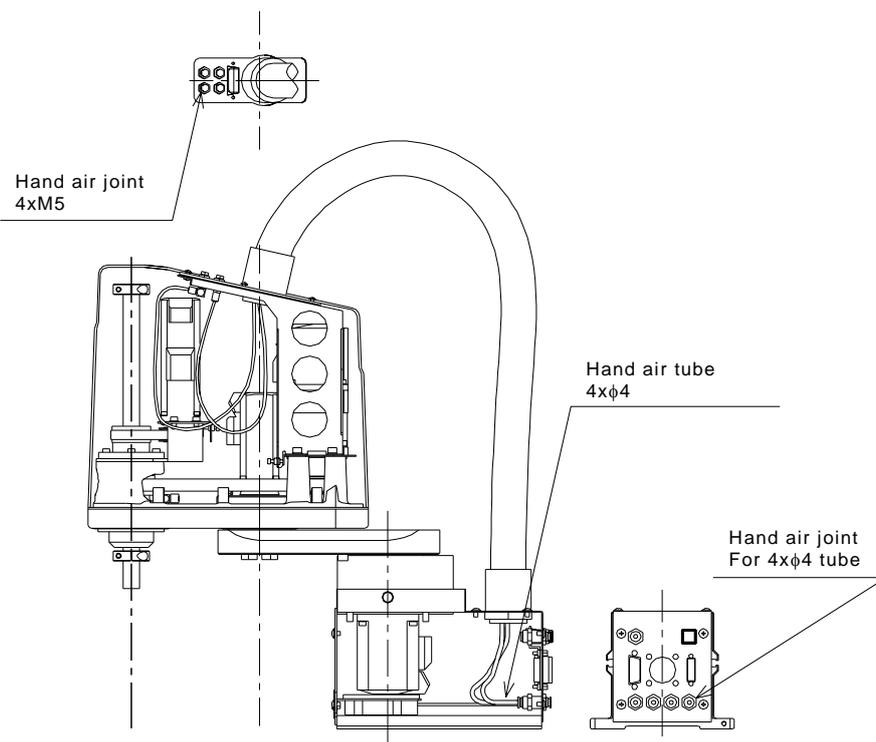
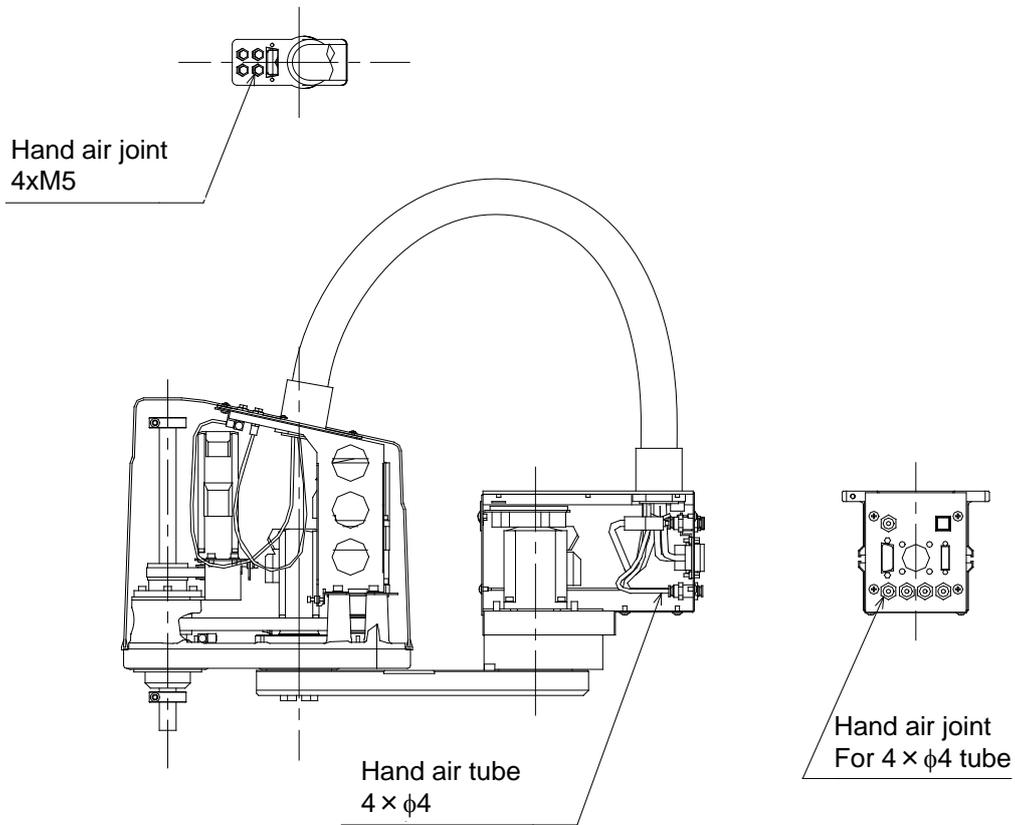

Fig. 4.3 Air piping for tool (TH250A, TH350A)
Fig. 4.5 Air piping for tool (TH350A-T)
A total of four (4) lines ($\phi 4 \times 2.5$) are provided for the tool air piping, which are shown in Fig. 4.3 to Fig. 4.5.